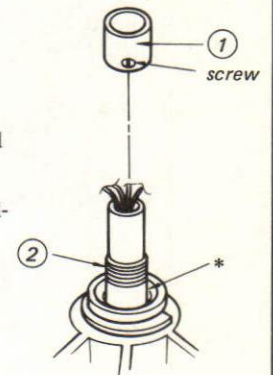

Fig. 3-8
6. Clean the portion marked \* in Fig. 3-8.
7. Put fourteen cleaned steel-balls into the portion marked by \* in Fig. 3-8.